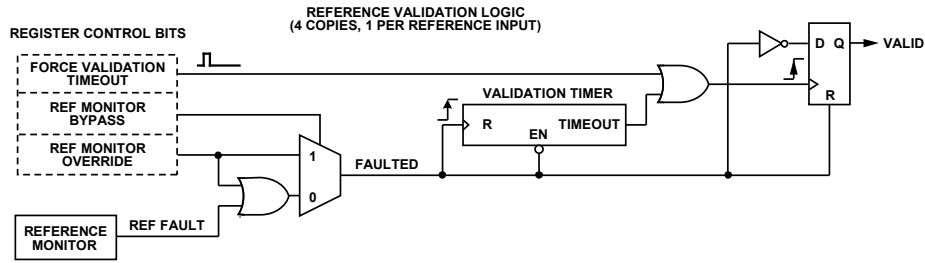

Figure 33. Reference Validation Override
Register 0x0A0E to Register 0x0A10 provide the user with the ability to override the reference validation logic, enabling a certain level of troubleshooting capability. Each of the four input references has a dedicated block of validation logic, as shown in Figure 33. The state of the valid signal at the output defines a particular reference as valid (1) or not valid (0), which includes the validation period (if activated) as prescribed by the validation timer. The override controls are the three control bits on the left side of the diagram.